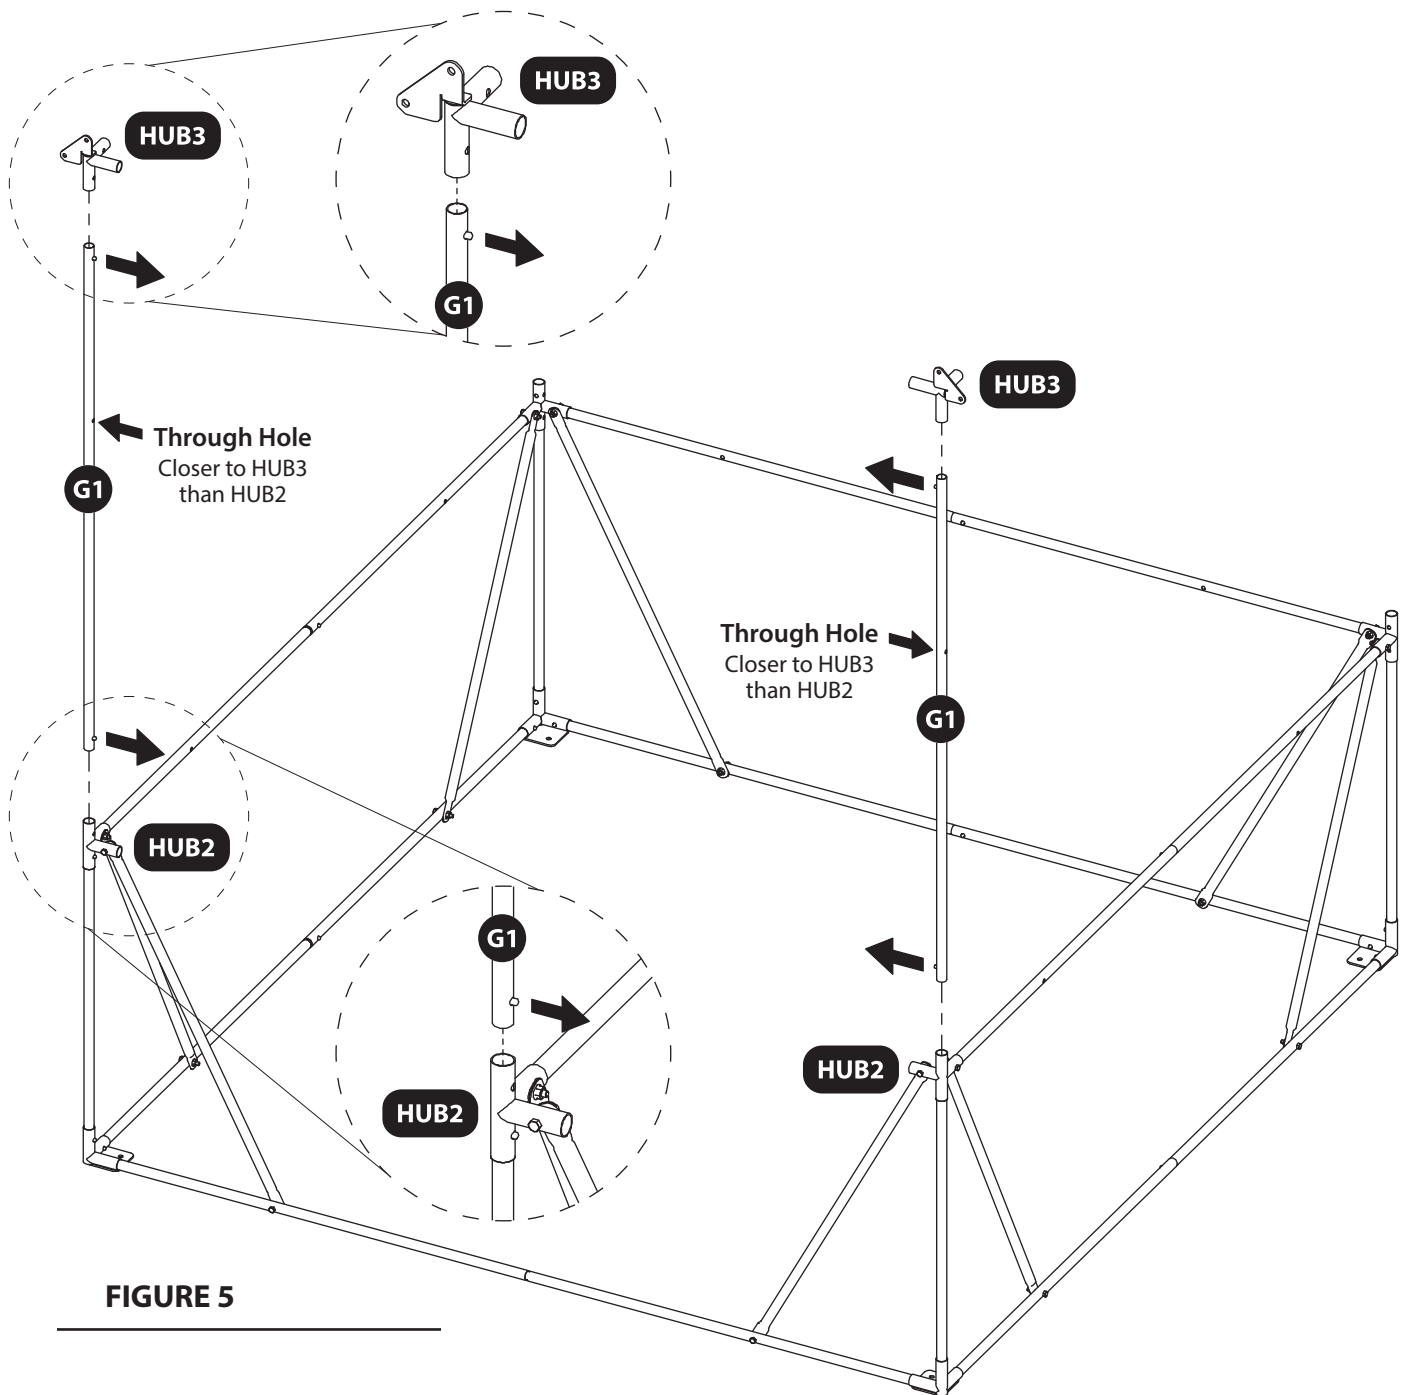

FIGURE 5
10. Slide two G1 poles into HUB2 corners on the door side of the blind so that the snap buttons secure pieces together. It is critical that the G1 poles are oriented such that snap buttons are facing each other and each through hole is located closer to the HUB3 corners than the HUB2 corners. **SEE FIGURE 5.**
11. Attach two HUB3 corners to the two G1 poles so that the snap buttons secure pieces together. **PAY ATTENTION TO ORIENTATION OF HUB 3! SEE FIGURE 5.**